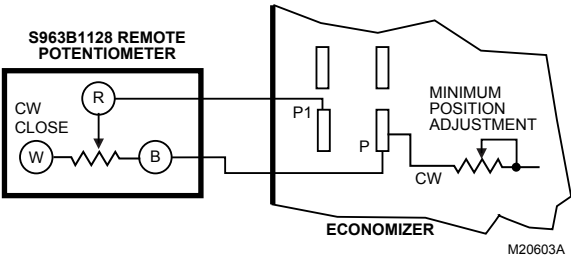

Fig. 6. S963B1128 Remote Potentiometer used with logic module for remote damper control.
4. Ensure that either the factory-installed jumper is in place across terminals P and P1 or, if remote damper position is required, that it is wired according to Fig. 6 and the MIN POS potentiometer is turned fully clockwise.
Remote control of outdoor air dampers is desirable when requiring temporary additional ventilation. The addition of a S963B1128 Remote Potentiometer allows occupants to open or close the dampers beyond minimum position for modified ventilation. Connect the potentiometer as shown in Fig. 6. For economizer applications using remote position potentiometers, the action of the outdoor damper matches the MIN POS action in Table 1.